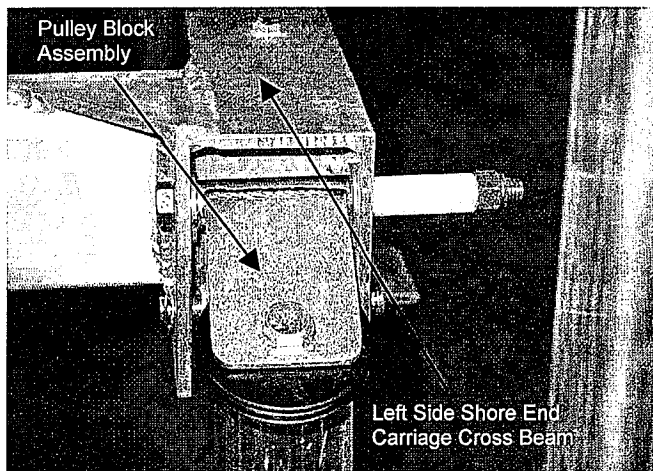

FIG. 16
1. Assemble the pulley block assembly as shown in FIG. 16 and 17.